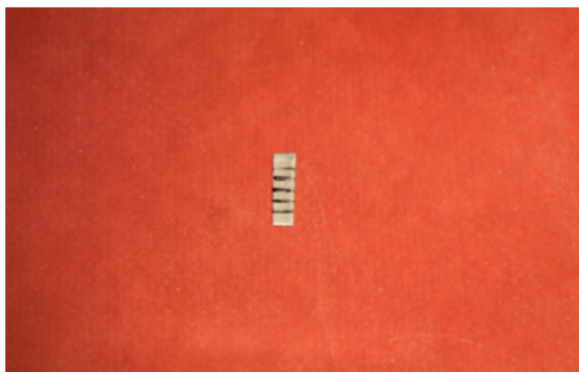

Figure 2: Band material with markings on 1 mm interval
3. Mark on the flat surface of the band material 1 mm apart. (Figure 2)